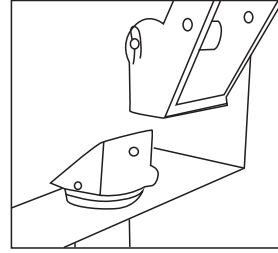

Fig 9
2. Slide front end extension onto adaptor (Fig 9).